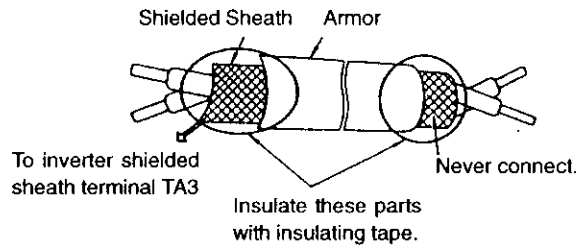

Fig. 5 Shielded wire termination
- Use a shielded wire to connect to the PG. Connect the wire as shown in Fig. 5 to prevent interference by noise. The wire must be 300m or shorter.